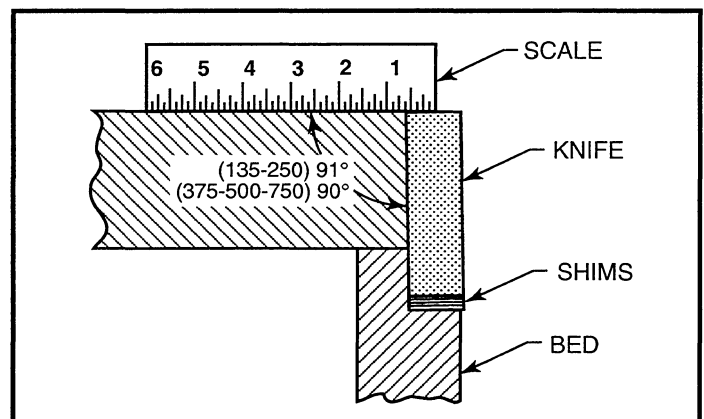

FIGURE 9-8 - Lower knife seat
47. Check height of lower knife. The **135** and **250 Series** has a 91° knife seat. A scale on the table should touch the middle of lower knife as shown in Figure 9-8 The **375, 500** and **750 Series** has a 90° knife seat. The knife should be .000" - .004" (.000-.102mm) below the table surface.